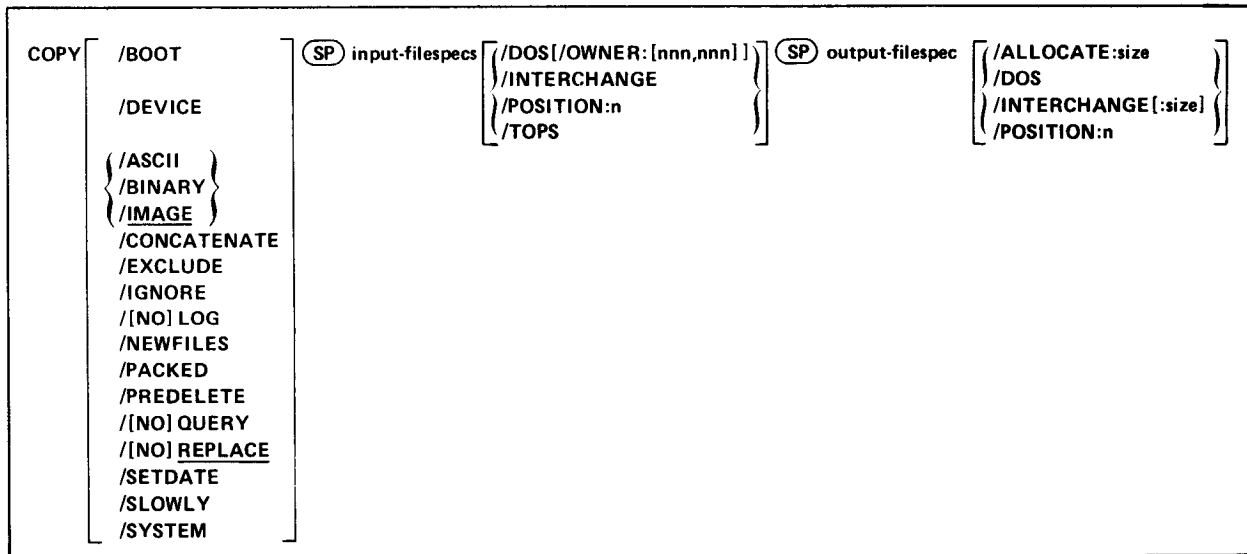

Figure 4-1 Sample Command Syntax Illustration
This manual provides a graphic illustration to clarify the syntax for each of the keyboard monitor commands. See Figure 4-1 for an illustration of a typical command. The illustrations provide a ready-reference list of the options that the commands accept, as well as information that makes the commands easier to use. The following list describes the conventions that are used in the illustrations.
3. Square brackets [] enclose optional choices; you can include the item that is enclosed in the brackets or you can omit it, as you choose. If a vertical list of items is enclosed in square brackets, you can combine the options that appear in the list. However, if an option is set off from the others by blank lines (see /BOOT and /DEVICE in Figure 4-1), you cannot combine that option with any other option in the list.